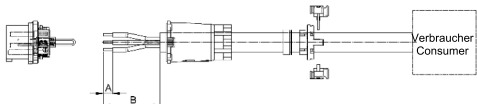
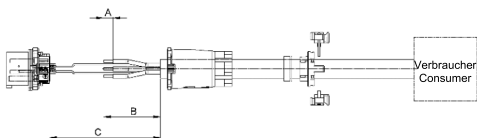
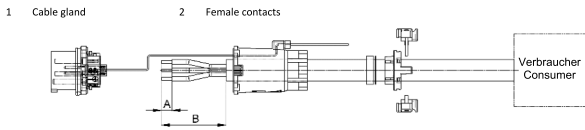

Fig.6: Schematic for cables without pilot contacts
Fig.7: Schematic for cables with integrated pilot contacts
Fig.8: Schematic for cables with separate pilot contacts
- Proceed as specified in Fig.6 if no pilot contacts are present. Control pilot loop (Fig.6/2).
- Proceed as specified in Fig.7 if pilot contacts have been integrated.
- Proceed as specified in Fig.8 if the pilot contacts are separate.
1. Pull the cable gland (Fig.6/1, Fig.7/1, Fig.8/1) over the cable. Strip off the exterior insulation along length B (Fig.6, Fig.7, Fig.8).
2. Strip the insulation off each individual line along length A (Fig.6, Fig.7, Fig.8).
3. Length C (Fig.7) represents the length of the integrated pilot contact
5. Screw the female contact (Fig.6/2, Fig.7/2, Fig.8/2) to the cable.